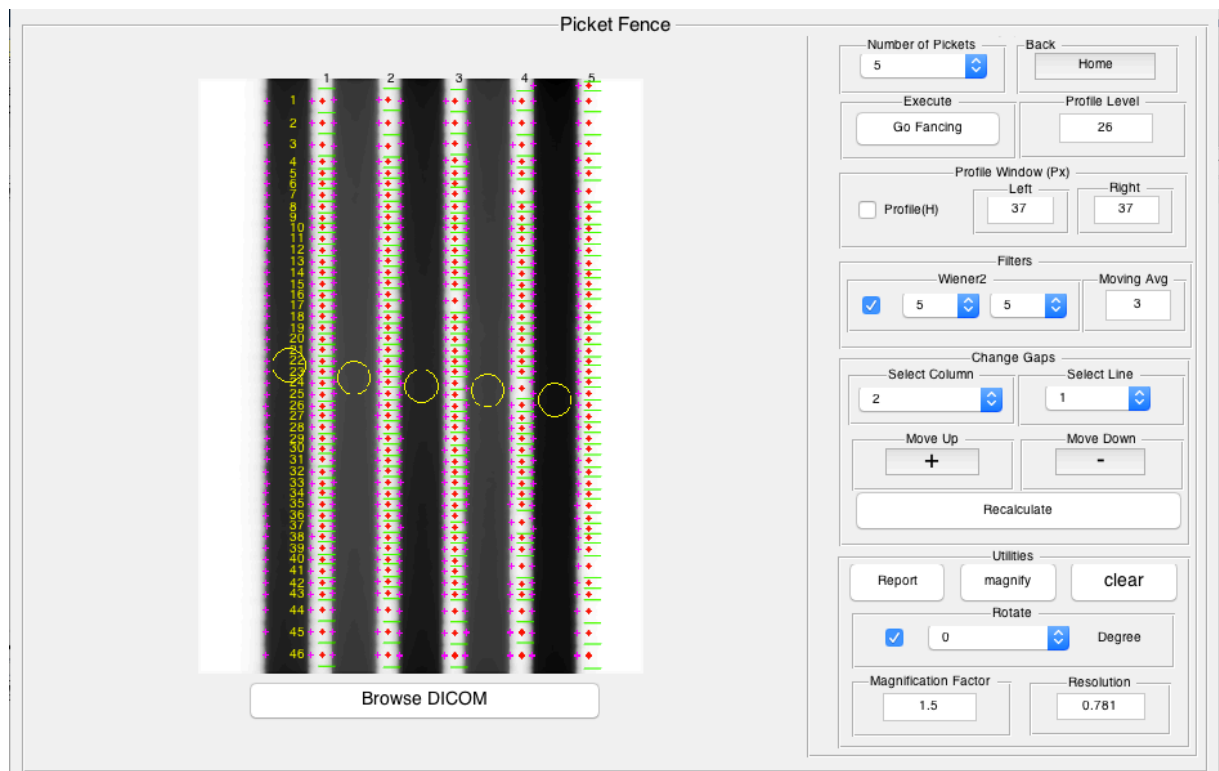

Fig. 6: Picket fence analysis.
5. Click ‘Go Fencing’. A cursor will appear. Choose the pickets one by one from left to right. The user must click the horizontal centers of the pickets as shown in the figure 6. The yellow markers show the chosen centers of the pickets. QALMA will finish the analysis by detecting the leaf position and edges. The gaps are located using the green lines and the position of the leaves are shown using red ‘\*’. Couple of figures will be opened. Unless Profile (H) and Profile (v) is checked, please wait till the figures close by themselves.
If you are using QALMA for the first time for your system, you might need to adjust the parameters, in case the default parameters could not generate expected result (fig. 6).
Expected results might not be achieved due to the existing noise on the image depending on the quality of the imaging system. The user is expected to try different values of Weiner2 and moving average filters until desired result is achieved (fig. 6).